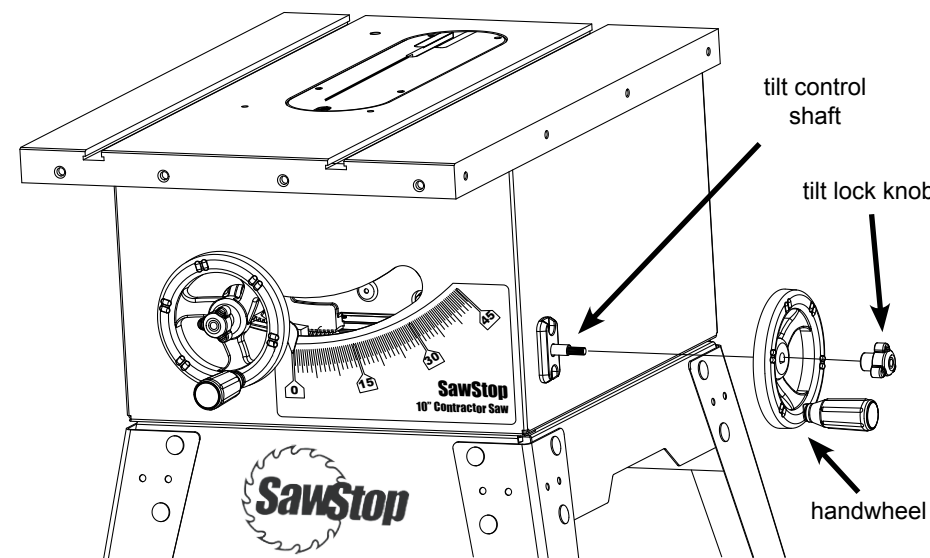

Fig. 16
16. Open the blade tilt package and slide the handwheel onto the tilt control shaft and then thread the tilt lock knob onto the shaft (see Fig. 16).